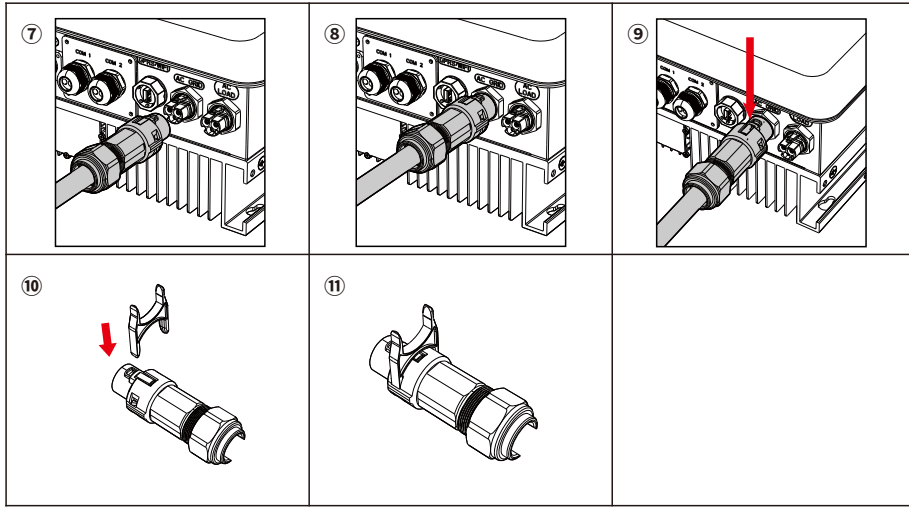

Figure 13: Connection of AC output cable
Step 1: Select the appropriate type and specification of cable according to Table 4-3, and then strip the cable; the specific stripping length shall refer to Figure 13 ①; A: 30~50mm B: 3~5mm
Step 2: Disassemble the AC terminal as shown in Figure 13 ②, and pass the stripped cable through the waterproof locking nut;
Step 3: Lock the cable into the locking hole on the terminal as indicated, and fastened with a hexagon socket screwdriver, as shown in Figure 13 ③④;
Step 4: Insert the output terminal, and when the “click” sound is heard, tighten the waterproof nut clockwise, as shown in Figure 13 ⑤⑥, to ensure that the cable is securely connected;
If it is required to remove the terminal from the equipment, it can be pulled out by a tool inserted in the direction as indicated by the arrow. The same tool can be used to remove the terminal, as shown in Figure 13 ⑩⑪.